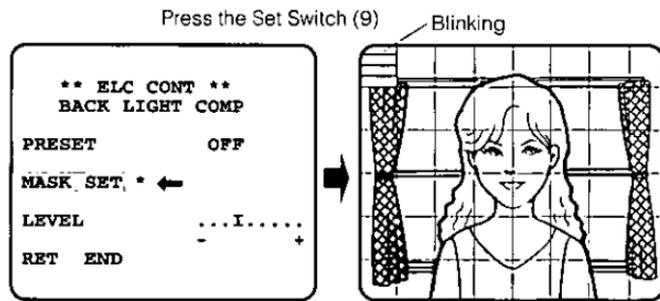

Fig. 42
- Move the cursor to the "MASK SET" mode position and press the Set Switch (9). The 48 Mask Areas appears on the monitor screen as shown in Fig. 42. The left top area has blinking cursor.